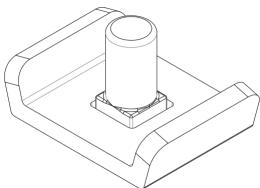
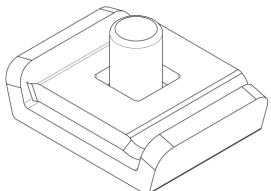

Figure 2
Figure 3
a) Connect front stand (10a) to connection pipe (a) and front stand (10b) to connection pipe (b) by bolts and nuts (fig.2).
Step 7: Use metal buckles to connect the front shield and the right shield (specific steps are: 1. Insert the M5 bolt into the large link button hole, see Figure 2. 2. Insert the assembled M5 bolt into the front shield and connect it to the right shield. Boundary 3: Cover the small link buckle on the large link buckle and pass it through the M5 bolt, see Figure 3. 4Finally, tighten the M5 nut and M5 bolt, see Figure (4)